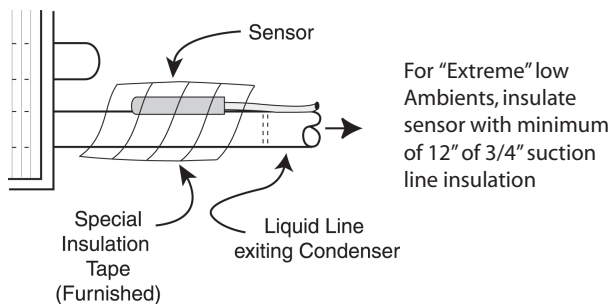

Figure 1 - Sensor Installation Cross Section Diagram
- E. Install the supplied 10K Sensor to the top of liquid line where the line exits the condenser coil as shown below in **Figure 1, Sensor Installation Cross Section Diagram**.